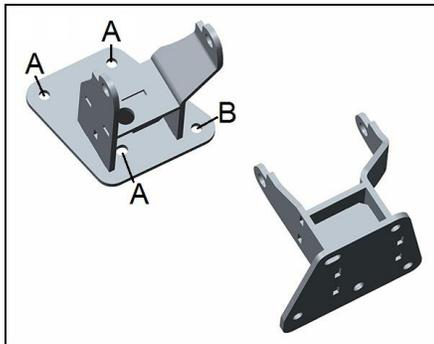
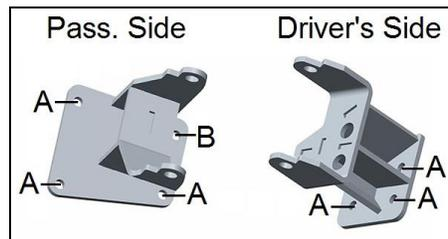

Figure 1 – V6 Driver's Side
Figure 3 – LT1/LT4-V8
6. Using the stock bolts, install the Hooker Blackheart engine brackets onto the cradle, as shown in **Figures 1 and 2** for V6 applications and **Figure 3** for LT1/LT4-V8 applications. The additional base plate holes (**marked B**) can be scribed, drilled and fitted with fasteners, if desired, for higher HP applications. Leaving these holes undrilled will have no effect on the strength/integrity of a typical swap installation.